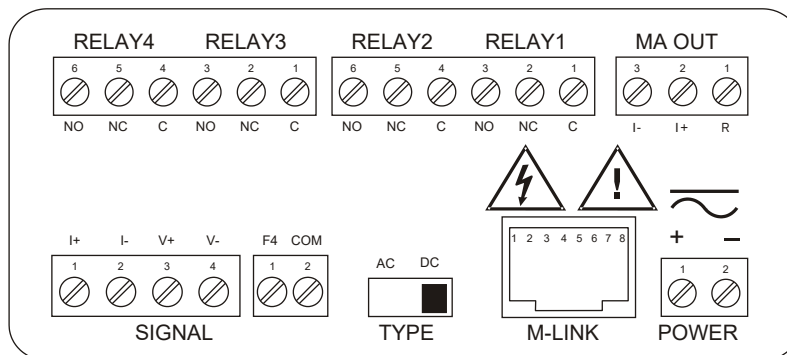

Figure 5. Connector Labeling for Fully Loaded PD6400
Isolated Transmitter Power Supply	Terminals I+ & R: 24 VDC $\pm 10\%$ @ 40mA. May be used to power the 4-20 mA output or other devices. Refer to Figure 5 on page 10 and Figure 19 on page 14.
Power connections are made to a two-terminal connector labeled POWER on Figure 5. The meter will operate regardless of DC polarity connection. The + and - symbols are only a suggested wiring convention.
Signal connections are made to a four-terminal connector labeled SIGNAL on Figure 5. The I+ and I- terminals are used for Channel A (CH-A) as the current input terminals. The V+ and V- terminals are used for Channel V (CH-V) as the voltage input terminals.
In addition to the signal connections, the switch labeled TYPE on Figure 5 must be set to AC (alternating current) or DC (direct current) to accept the corresponding type of voltage and current signals.
Serial communications connection is made to an RJ45 connector labeled M-LINK on Figure 5. For interfacing to the PROVu®, use the PDA1232 for RS-232 or the PDA1485 for RS-485. The same port is used for interfacing with all expansion modules (e.g. external relays, digital I/O).
Relay connections are made to two six-terminal connectors labeled RELAY1 – RELAY4 on Figure 5. Each relay's C terminal is common only to the normally open (NO) and normally closed (NC) contacts of the corresponding relay. The relays' C terminals should not be confused with the COM (common) terminal of the INPUT SIGNAL connector.